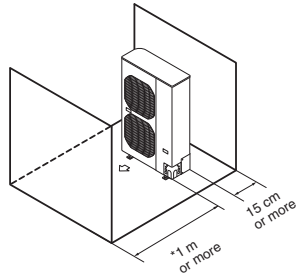

Fig. 2-3
- (2) Obstructions on the front side and rear side (Left side, right side and above the unit are opened). (Fig. 2-3)